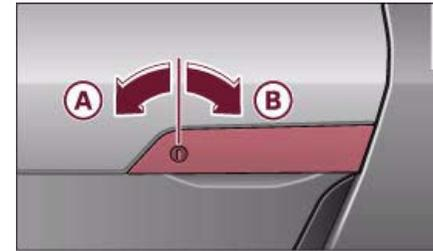

Fig. 36 Lock on driver's door
- Turn the key in the driver's door lock to position **(A)** ⇒ fig. 36.